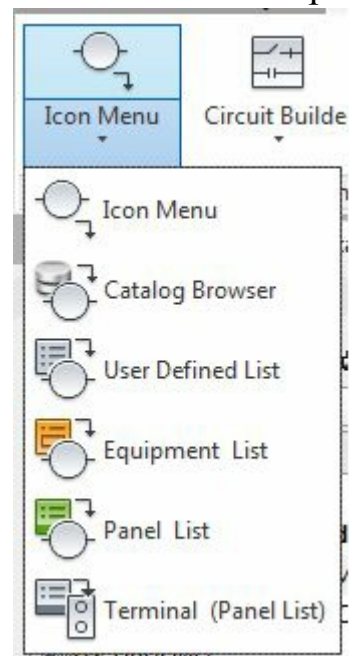

Figure-1. List of tools
- Click on the Down arrow below **Icon Menu** button in the **Schematic** tab of the **Ribbon**. The list of tools will be displayed; refer to Figure-1.